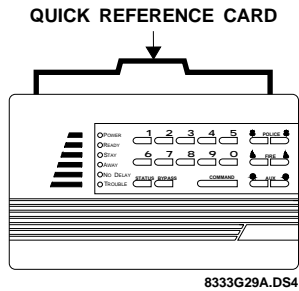

Figure 4. Quick Reference Card Location
- 10) Insert the *Quick Reference Card* into the space at the top, back side of the panel (see Figure 4). Make sure that the “TEST WEEKLY” tab on the card is facing out. Also, remember to fill this card out when the install is complete.